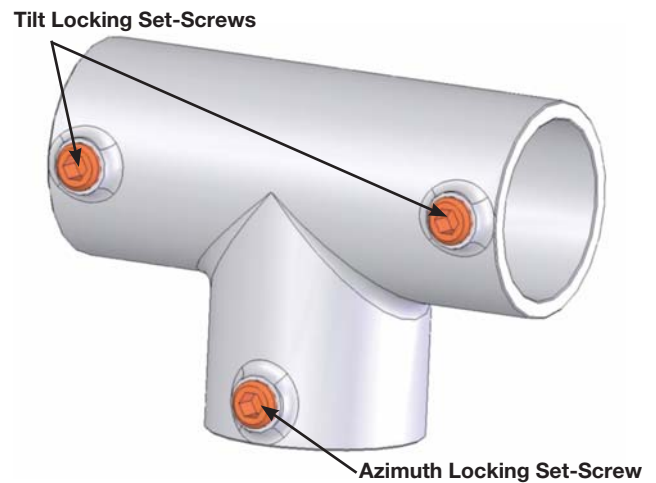

Figure 3
Mounting hardware to attach the solar panels to the pole has been pre-assembled to aid in field installation. Prior to placement of the 3-outlet 2.0 inch diameter Pipe Tee, loosen the Azimuth (direction the solar panels face) adjustment Set Screw. Reference Figure 3. Position the bottom inlet on top of the pole, making sure it is firmly centered and seated down. Make sure that there aren't any shadows that could contact any portion of the solar panel.
To adjust both the direction the solar panels face and the tilt positions on the Solar Panel Mounting, there are (3) 5/8 in. - Set Screws on the 3-outlet 2.0 in. Diameter Pipe Tee component of the mounting assembly, which will require a 5/16 Allen Wrench. Reference figures 3 and 4.